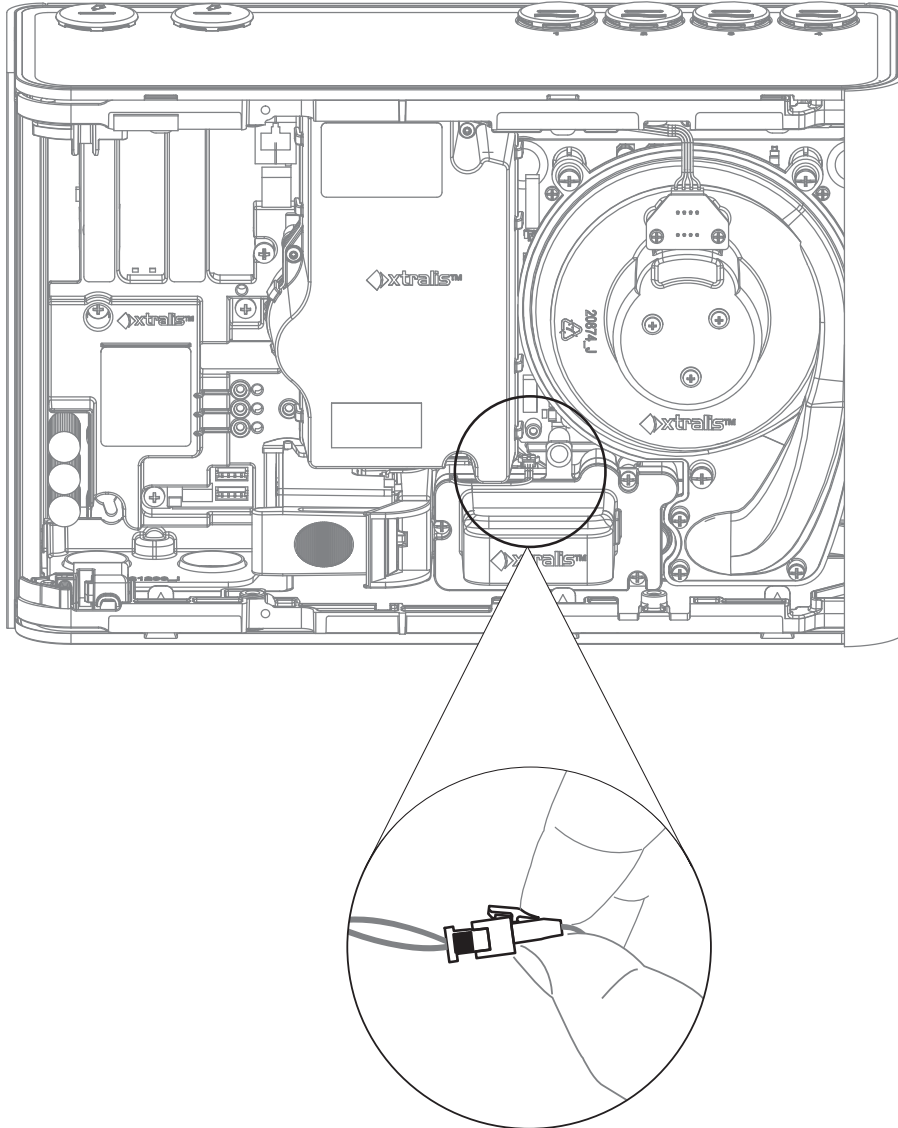

Figure 7-17: Release the Sampling Module cable
4. Press on the lever on the connector to release the catch (Figure 7-17).